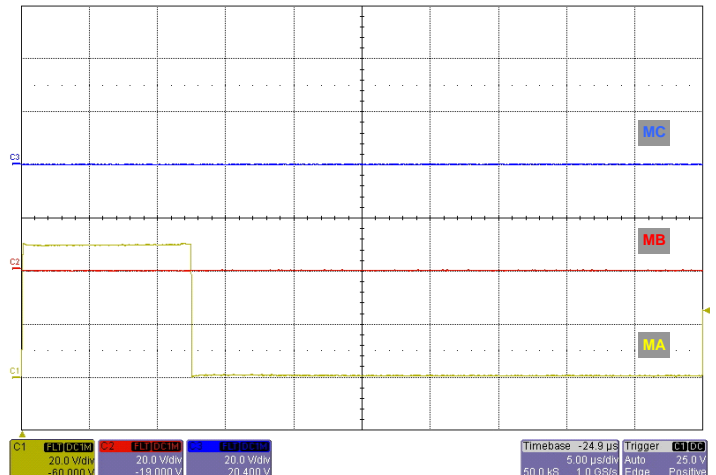

FIGURE 27. WAVEFORMS ON MA, MB, and MC WITH HA GROUNDED
2. While the HA input is grounded, observe the following waveforms in Figure 27, on the MA, MB, and MC terminals.
As the example in Figure 27 shows, there should be no switching disturbances on MC and MA.
As the example in Figure 27 shows, there should be no switching disturbances on MB and MA.